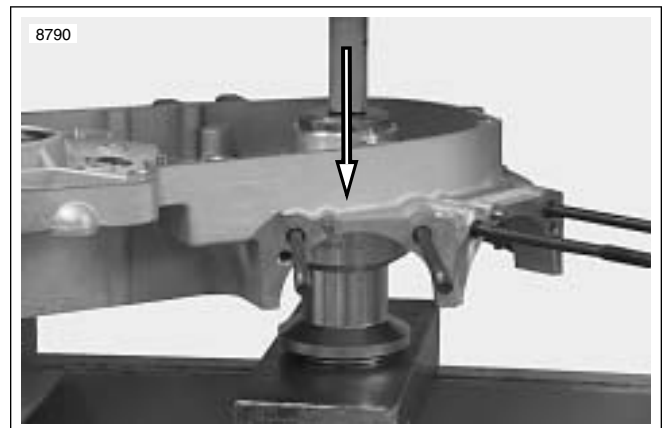

Figure 3-143. Direction of Bearing Removal From Left Crankcase
8. See Figure 3-143. Using CRANKCASE BEARING REMOVER/INSTALLER with ADAPTER (Part No. B-45655, HD-42720-2 and HD-46663) press sprocket shaft bearing out of the left crankcase half.